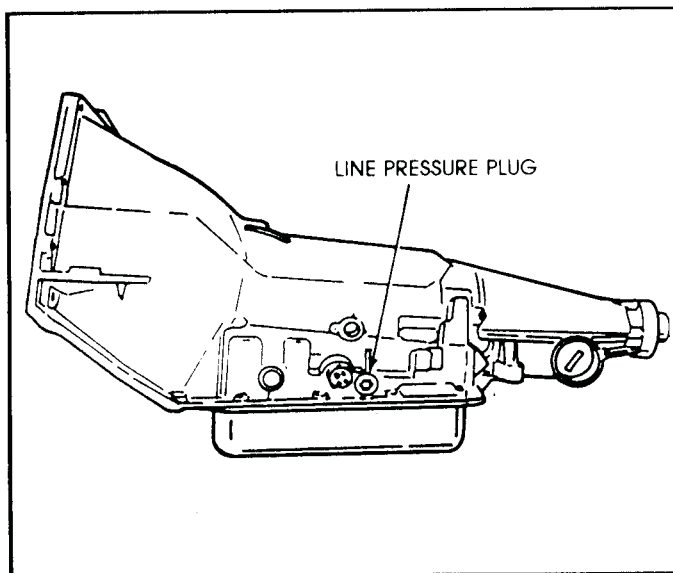

Figure 4
1. Install a 0-300 pound gage into the line pressure port. The line pressure plug location is shown in Figure 4.